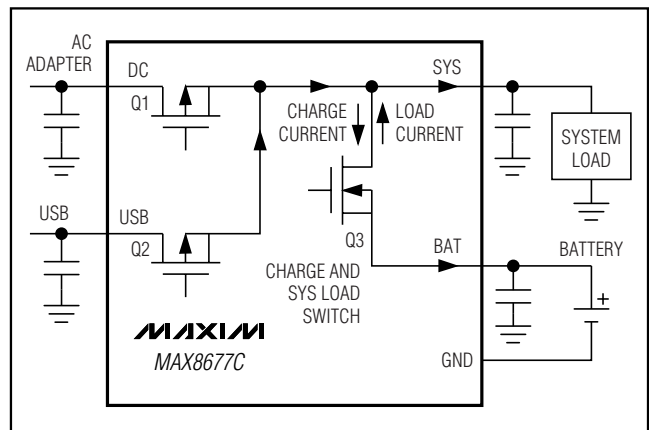

Figure 4. Smart Power Selector Block Diagram
The MAX8677C Smart Power Selector seamlessly distributes power between the external inputs, the battery, and the system load (Figure 4). The basic functions performed are:
An internal 40mΩ MOSFET connects SYS to BAT (Q3, Figure 4) when no voltage source is available at DC or USB. When an external source is detected at DC or USB, this switch is opened and SYS is powered from the valid input source through the input limiter.
The input voltage limiter is essentially an LDO regulator. While in dropout, the regulator dissipates a small I^2R loss through the 0.2Ω MOSFET (Q1, Figure 4) between DC and SYS. With an AC adapter or USB source connected, the input limiter distributes power from the external power source to the system load and battery charger. In addition to the input limiter's primary function of passing power to the system and charger loads at SYS, it performs several additional functions to optimize use of available power:
- **Input Voltage Limiting.** If an input voltage is above the overvoltage threshold (6.9V typ), the MAX8677C enters overvoltage lockout (OVLO). OVLO protects the MAX8677C and downstream circuitry from high-voltage stress up to 14V at DC and 8V at USB. In OVLO, VL remains on, the input switch that sees overvoltage (Q1, Q3, Figure 4) opens, and the appropriate power-monitor output (\overline{DOK} , \overline{UOK}) is high impedance, and \overline{CHG} is high impedance.
If both DC and USB see overvoltage, both input switches (Q1 and Q2, Figure 4) open and the charger turns off. The BAT-SYS switch (Q3, Figure 4) closes, allowing the battery to power SYS.
An input is also invalid if it is less than BAT, or less than the DC undervoltage threshold of 3.5V (falling). With an invalid input voltage, SYS connects to BAT through a $40m\Omega$ switch (Q3, Figure 4).
The total current through the switch (Q1 or Q2 in Figure 4) is the sum of the load current at SYS and the battery charging current. The limiter clamps at 4.35V, so input voltages greater than 4.35V can increase power dissipation in the limiter. The limiter power loss is $(V_{\text{DC}} - 4.35) \times I$, but not less than $I^2 \times 0.2\Omega$. Also note that the MAX8677C turns off any input that exceeds 6.9V (nominal).